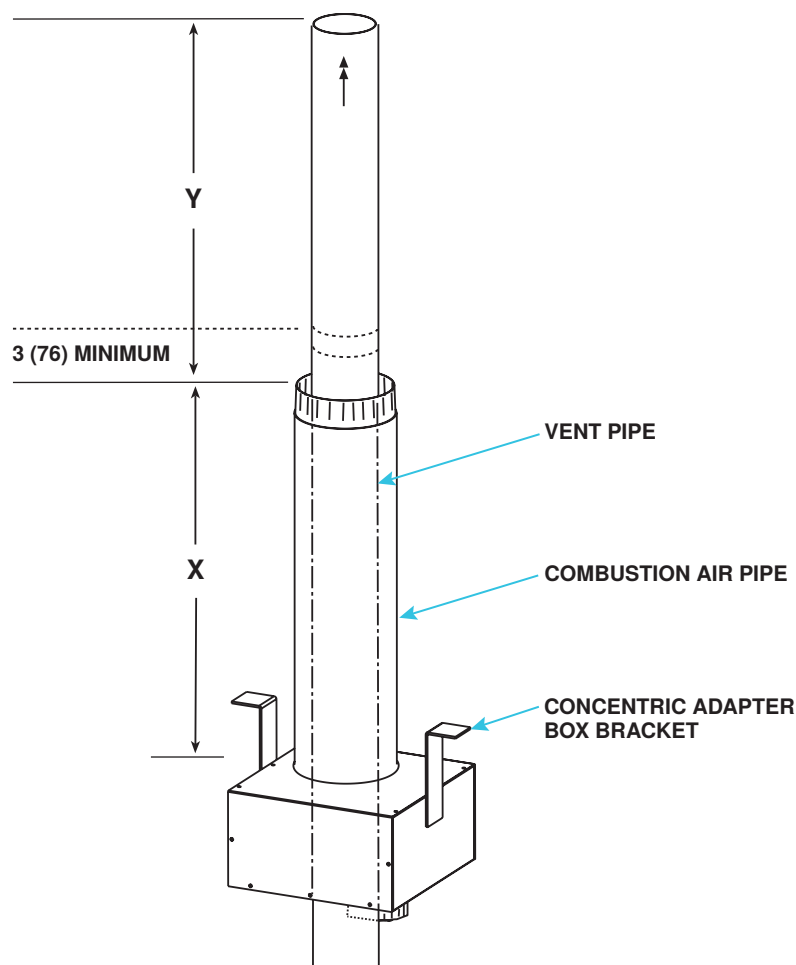

Figure 20. Combustion Air Pipe Installation
5. Connect outside section of combustion air pipe to concentric adapter box (see Figure 20):
- Refer to Figure 20 to determine length of dimension X as follows:
- Second section of double-wall pipe (see dimension Y in Figure 20) may be connected as needed to continuous section of vent pipe. Ensure that connection is minimum of 3 inches (76 mm) above combustion air pipe and that height is 12 inches (305 mm) minimum—34 inches (864 mm) in cold climates where design ambient temperature is -10°F (-23°C) or lower.
6. Secure concentric adapter box to underside of roof (see Figure 20):
- a. Refer to Figure 20 to determine lengths of each pipe segment and to calculate total length required. Determine minimum length by adding requirements:
- (1) Starting at bottom, vent pipe can extend maximum of 6 inches (152 mm) below box
- (2) Plus 6 inches (152 mm) through box
- (3) Plus length of brackets above box
- (4) Plus width of roof
- (5) Plus height of outside combustion air pipe above roof
- (6) Plus minimum of 3 inches (76 mm) beyond top of inlet air pipe
- (7) Total is minimum length of vent pipe section—if actual piece of vent pipe is longer, extend it farther above combustion air pipe—do not extend it more than 6 inches (152 mm) below box